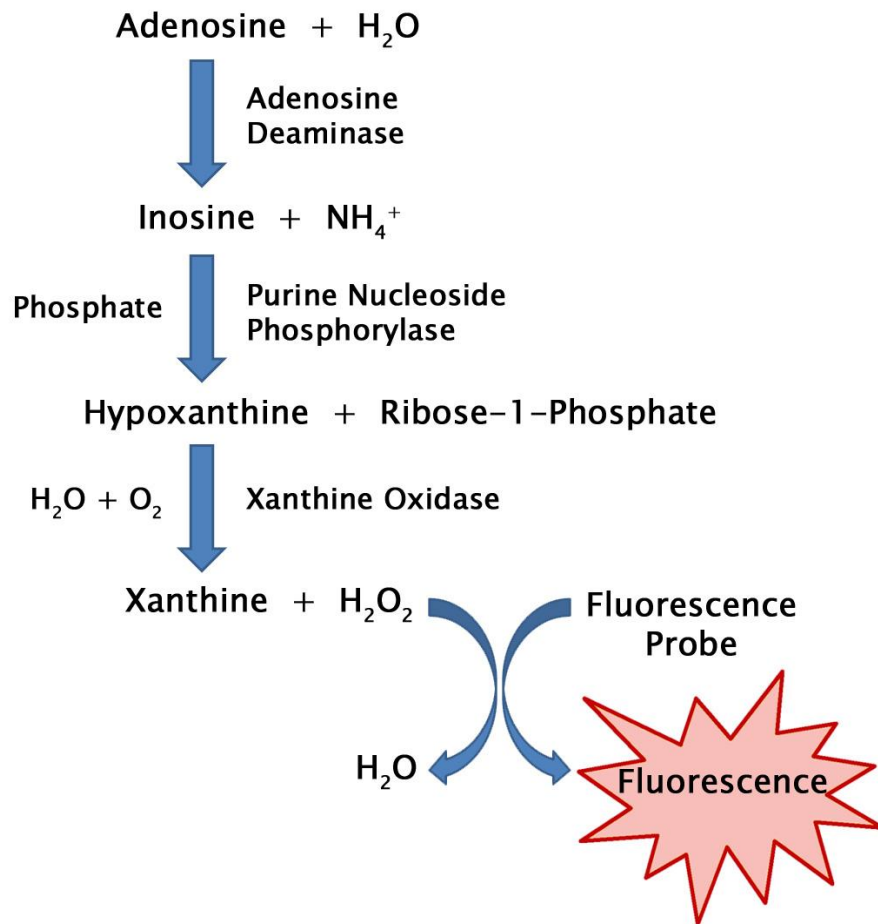

Figure 1. Adenosine Assay Principle.
Cell Biolabs' Adenosine Assay Kit measures total adenosine within biological samples. Adenosine is converted into inosine by adenosine deaminase (ADA). Then inosine is converted into hypoxanthine by purine nucleoside phosphorylase (PNP). Finally, hypoxanthine is converted to xanthine and hydrogen peroxide by xanthine oxidase (XO). The resulting hydrogen peroxide is then detected with a highly specific fluorometric probe. Horseradish peroxidase catalyzes the reaction between the probe and hydrogen peroxide, which bind in a 1:1 ratio. Samples are compared to a known concentration of adenosine standard within the 96-well microtiter plate format. Samples and standards are incubated for 15 minutes and then read with a standard 96-well fluorometric plate reader (Figure 1).